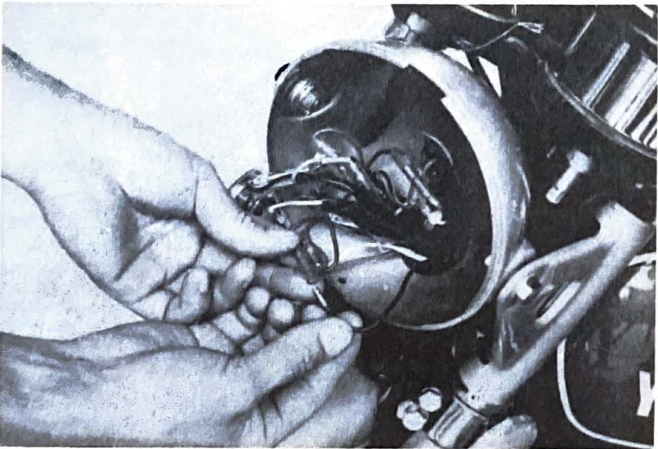

Fig. 29
20. Connect lead wires inside the head lamp body. Lead wires of the same color should be connected. (Fig. 29)